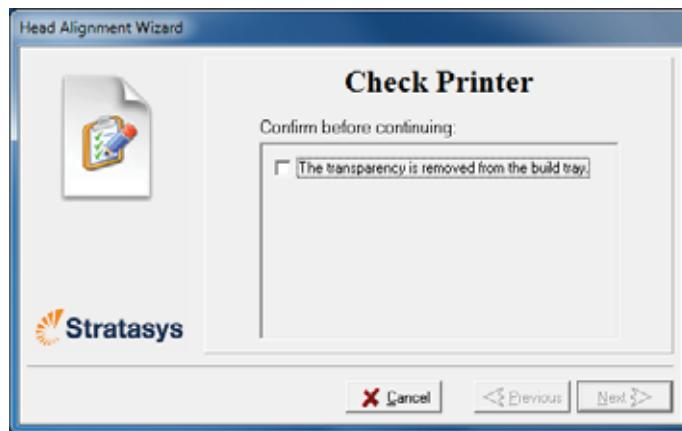

Figure 6-42: Head Alignment wizard—steps 8–10
10. In the wizard screen shown in figure 6-42, select the *Transparency removed* check box, and click Next.